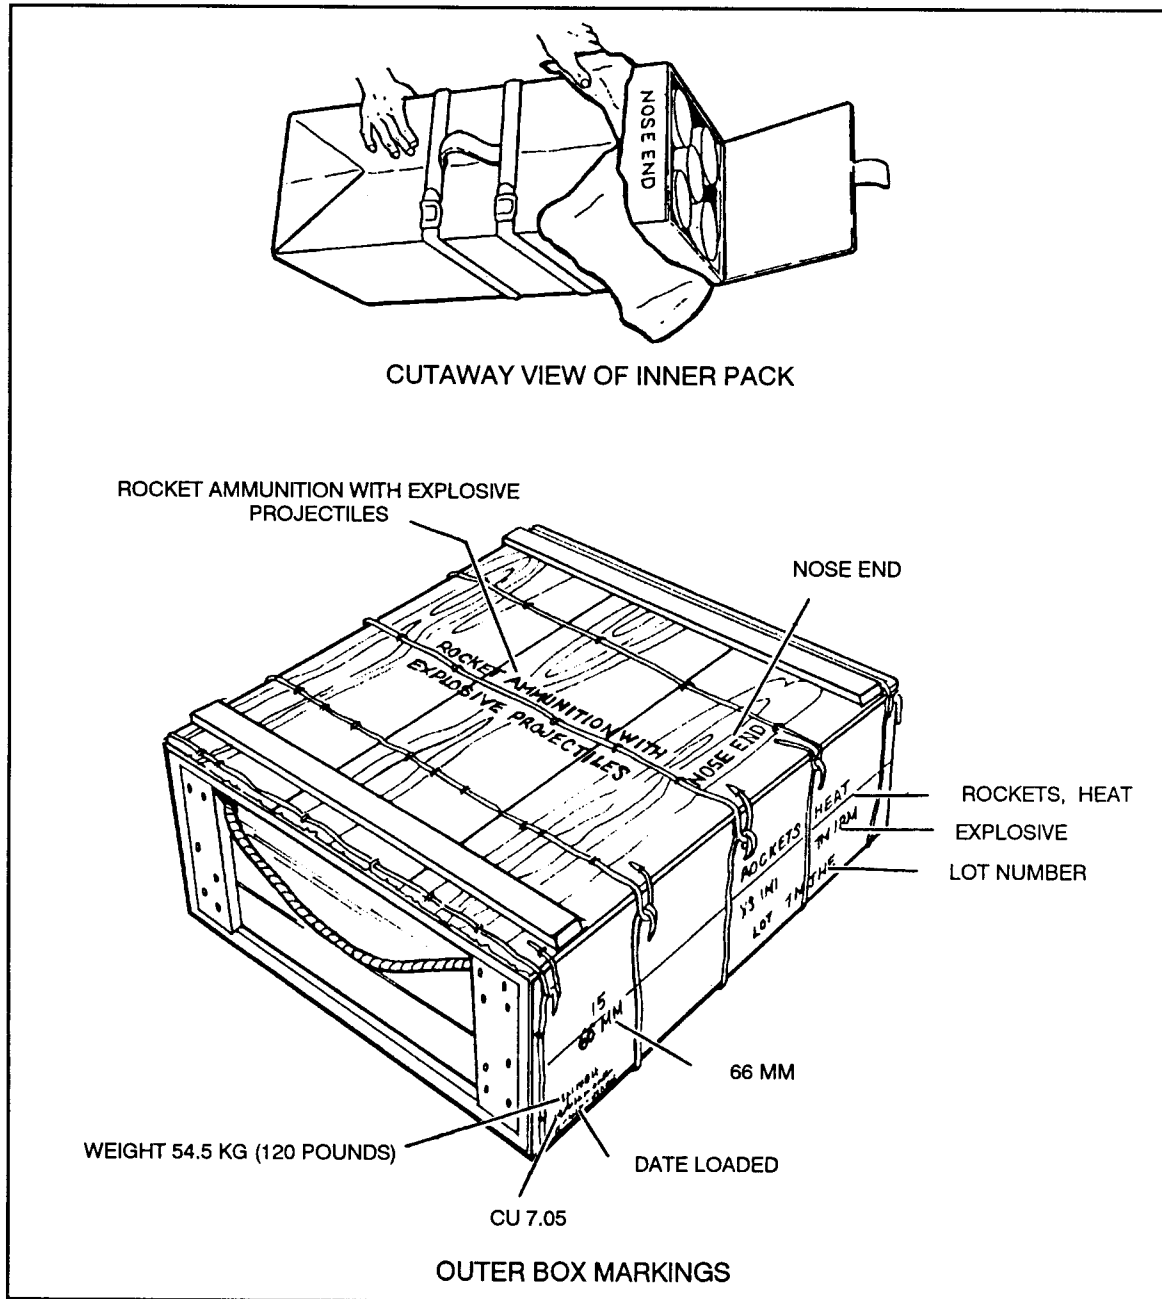

Figure 2-4. Packaging for M72-series LAW.
c. **Packaging.** Five complete M72-series LAWS are packaged within a fiberboard inner pack for a total weight of 12.5 kilograms (27 1/2 pounds). Three inner packs are then placed in a wire-bound wooden box, the gross weight of which is 54.5 kilograms (120 pounds) (Figure 2-4).